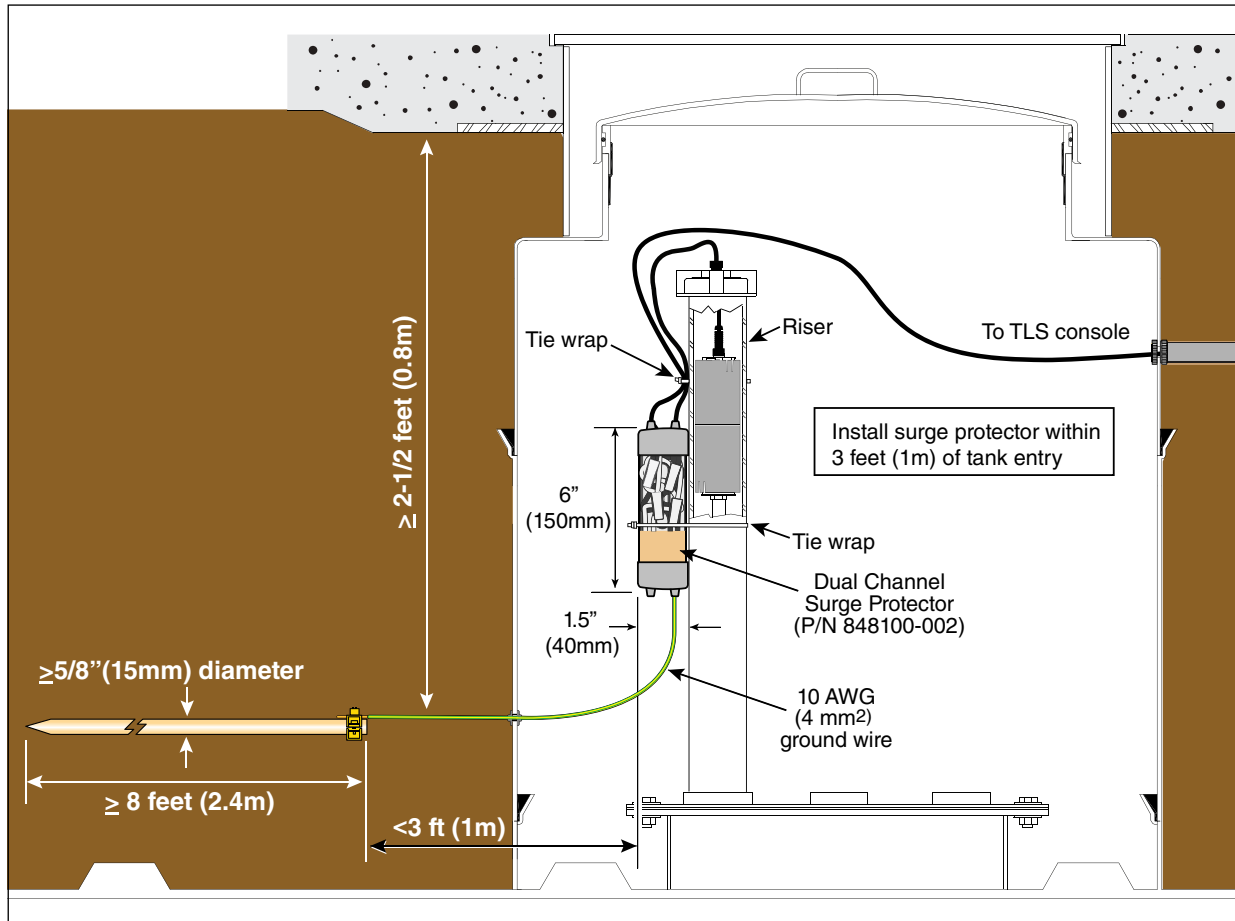
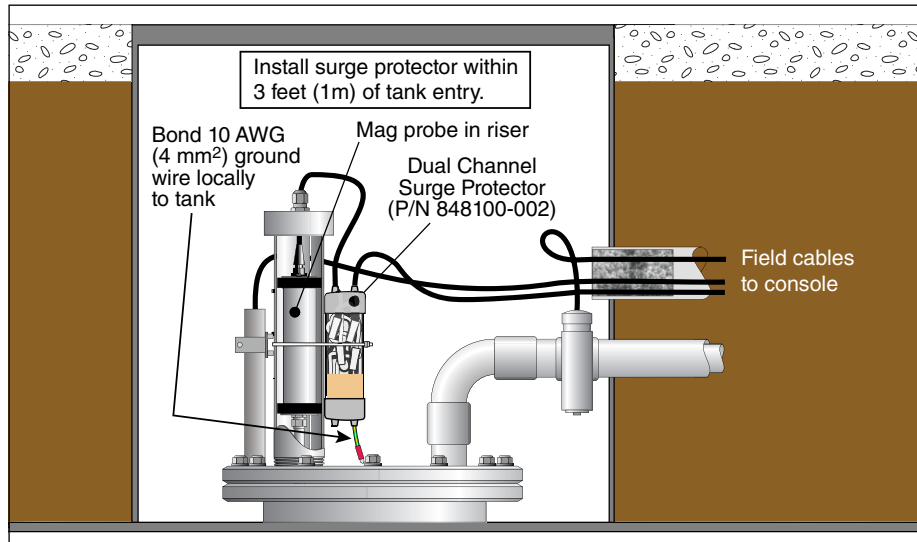
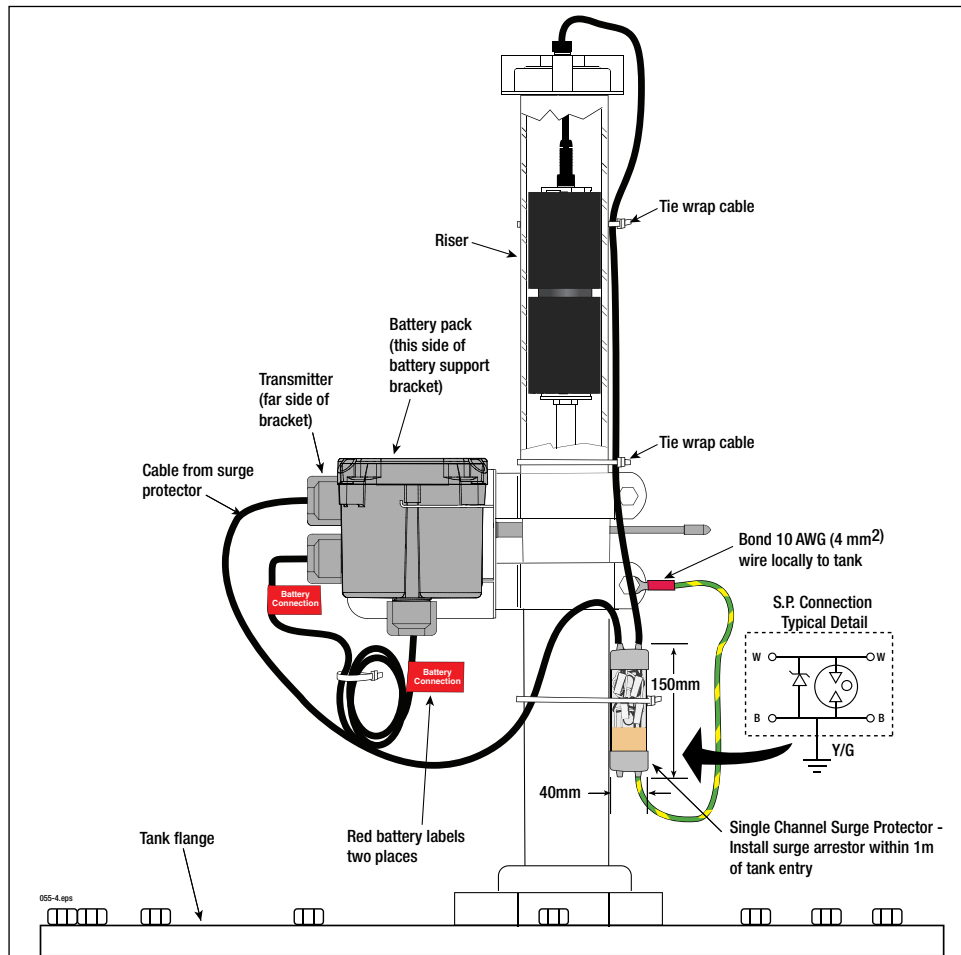

Figure 16. Example Wired Mag Probe with Dual Channel Surge Protection Installed - Fiberglass Tank
Figure 17. Example Wired Mag Probe with Dual Channel Surge Protection Installed - Steel Tank
Figure 18. Example Wireless Mag Probe with Single Channel Surge Protection Installed - Steel Tank
9. Wait at least five minutes, then use the large cable tie to mount the protector to the riser pipe or probe canister as applicable and connect green/yellow ground wire from protector to an appropriate ground (see Figure 16 through Figure 18).
Example surge protection installations of a wired mag probe in a fiberglass tank and in a steel tank are shown in Figure 16 and Figure 17 respectively. An example surge protection installation of a wireless mag probe in an above ground steel tank is shown in Figure 18.